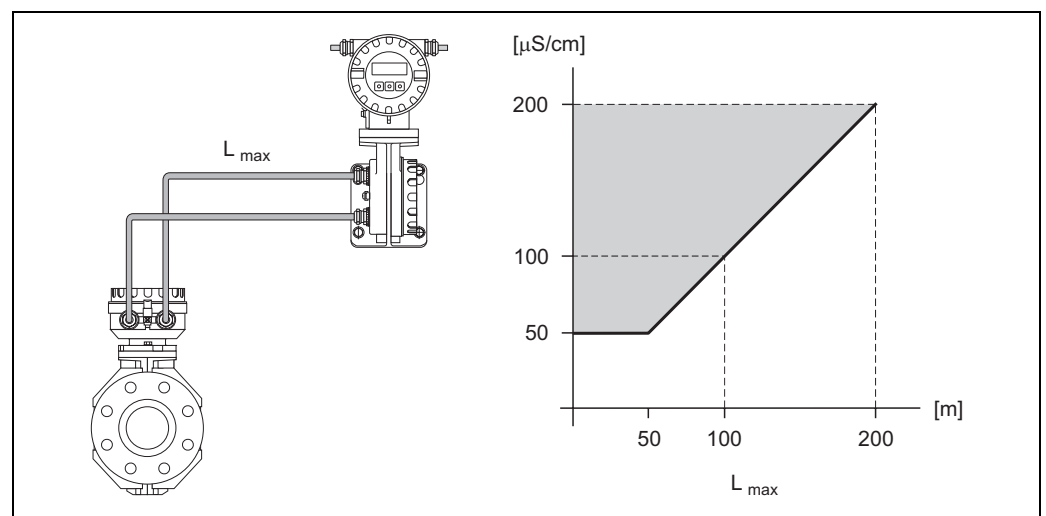

Fig. 16: Permitted lengths of connecting cable for remote version
- The permitted length of connecting cable  $L_{\max}$  is determined by the fluid conductivity (→ Fig. 16). A minimum conductivity of  $50 \mu\text{S}/\text{cm}$  is needed for all fluids.